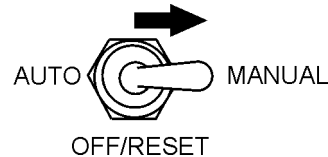

Figure 29. Auto-Off/Reset Manual; Switch (Manual Position)
3. Place the **Auto-Off/Reset Manual Switch** in the **MANUAL** position to start the engine (Figure 29).